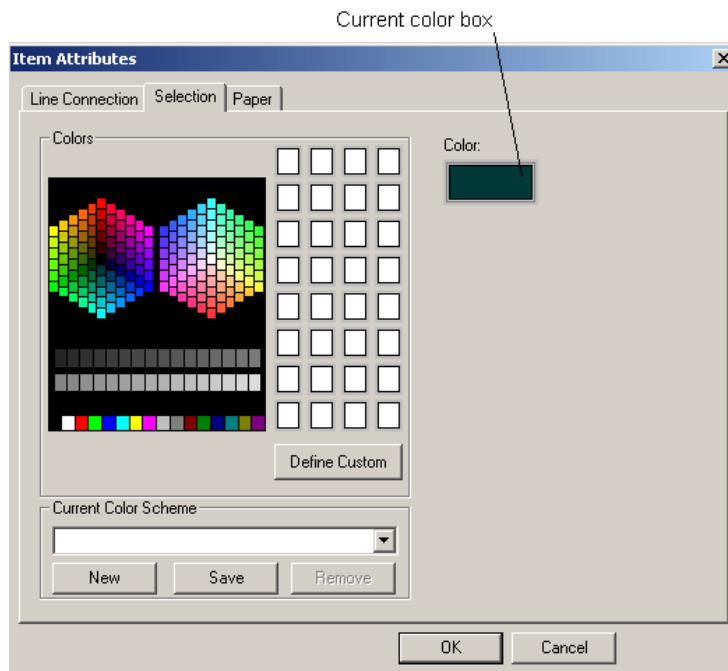

Figure 6-18 Selection tab – Item Attributes dialog
1. Click the **Selection** tab, if not already selected. See Figure 6-18.